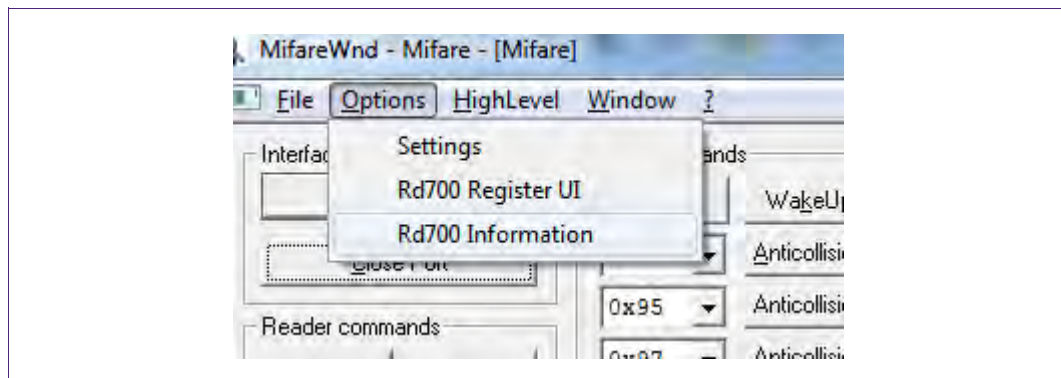

Fig. 8 Pegoda Reader Information
5) Select Options from the menu entry. A drop down menu will show up. Click on “RD700 Information” as shown in Fig. 8.